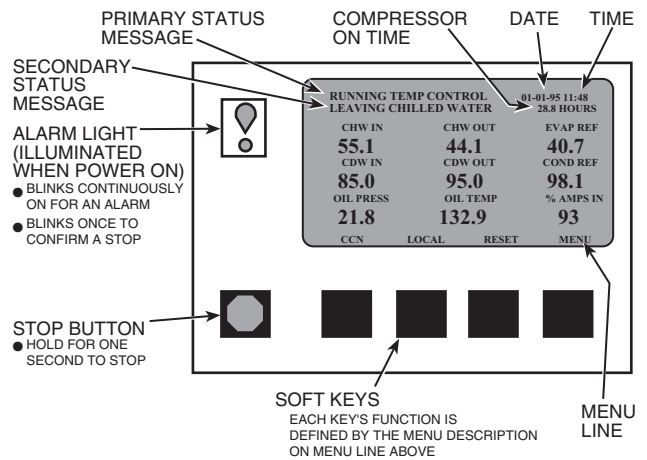

Fig. 14 — ICVC Default Screen
- The ICVC display automatically reverts to the default screen after 15 minutes if no softkey activity takes place and if the chiller is not in the pump down mode (Fig. 14).